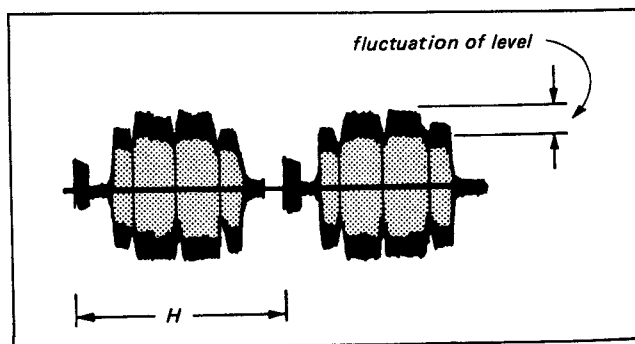

Fig. 5-17. JOG EXCH. C. level adjustment
- i) Adjust RV013 so that the fluctuation of level is minimum. (See Fig. 5-17.)